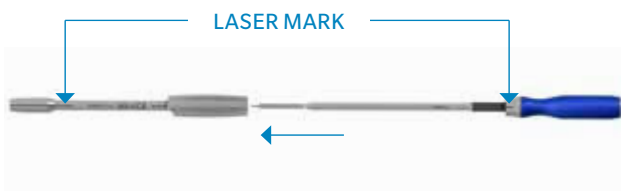

Figure 20b
- Orient the black line on the distal end of the sleeve with the black line on the handle. With this orientation, the top or opening of the hook is visible. Then, insert the hook into the sleeve of the removal instrument (Figure 20b).